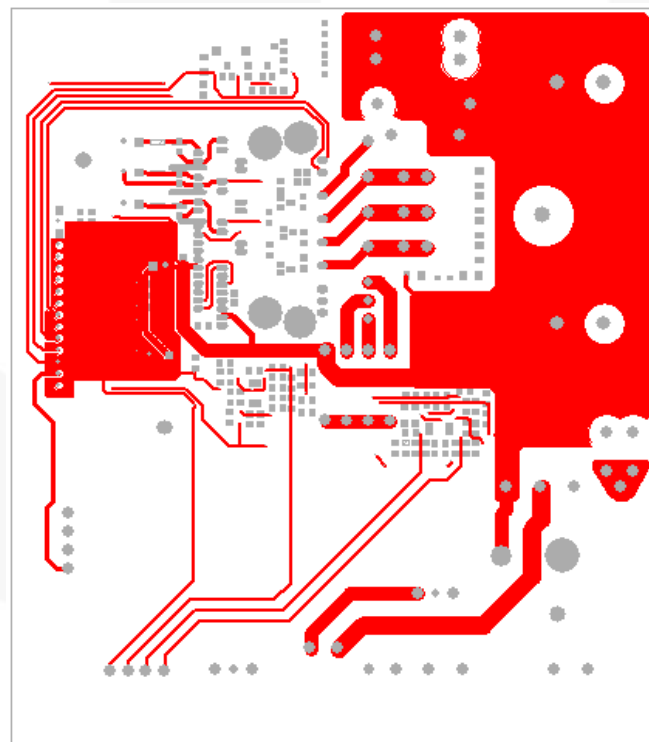

Figure 16. Bottom Layer
One shunt resistor is used for sensing short-circuit (SC) current. The related circuit is composed of an external shunt resistor, op amp, RC low-pass filter, fault indicator circuit, and fault output pin. Refer to reference design RD-344 for a more detailed explanation of the SCP circuit shown in Figure 16. In this example, the ideal shunt resistor value is 8 mΩ. The default shunt resistor used on this board is a 10 mΩ. The actual shunt resistor value used is typically a balance between component count (if op amp is required due to small resistor value) and shunt-resistor losses.
- Refer to Figure 16